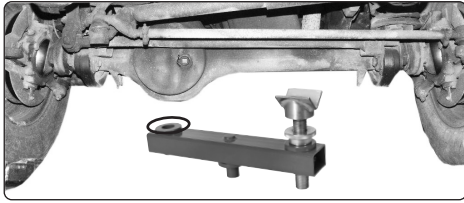

fig.2
- 5.3. Position the assembly beneath the vehicle axle as fig.2. Keeping the beam horizontal, jack the saddle up to the differential casing. Adjust yoke height to engage with back axle housing for smooth lifting.